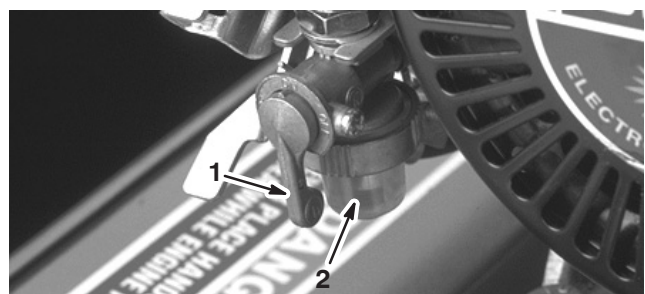

Figure 33
1. Close the fuel shut off valve and unscrew the bowl from the filter body (Fig. 33).